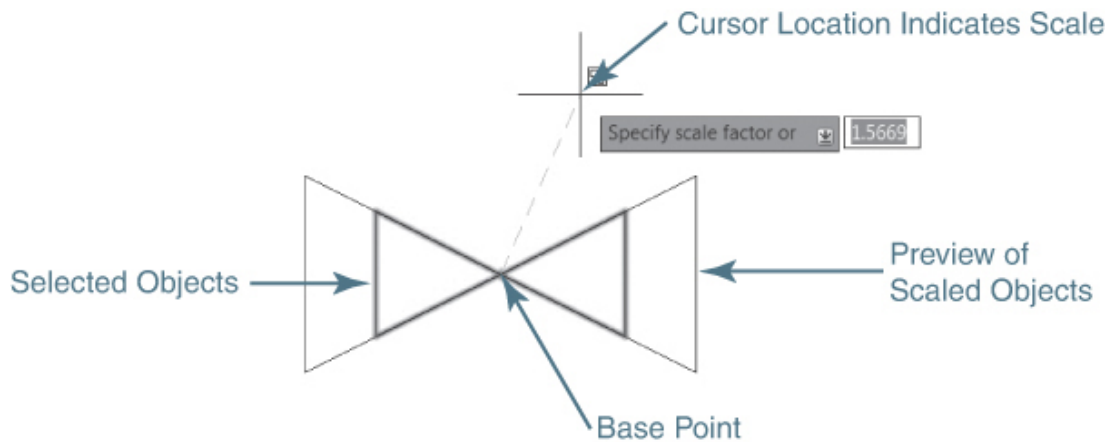

Figure 7-38
Using the first option you simply move your cursor and pick a point in your drawing to indicate the desired scale factor. AutoCAD provides a preview of the scaling process, as shown in Figure 7-38.
- 3 Snap to the intersection of both triangles using the **Intersection** object snap, as shown in Figure 7-38. AutoCAD prompts *Specify scale factor or ↓*.
- 4 Scale the triangles to any scale using a cursor pick point, as shown in Figure 7-38.
- 7 Snap to the intersection of both triangles using the **Intersection** object snap, as shown in Figure 7-38. AutoCAD prompts *Specify scale factor or* ↓.